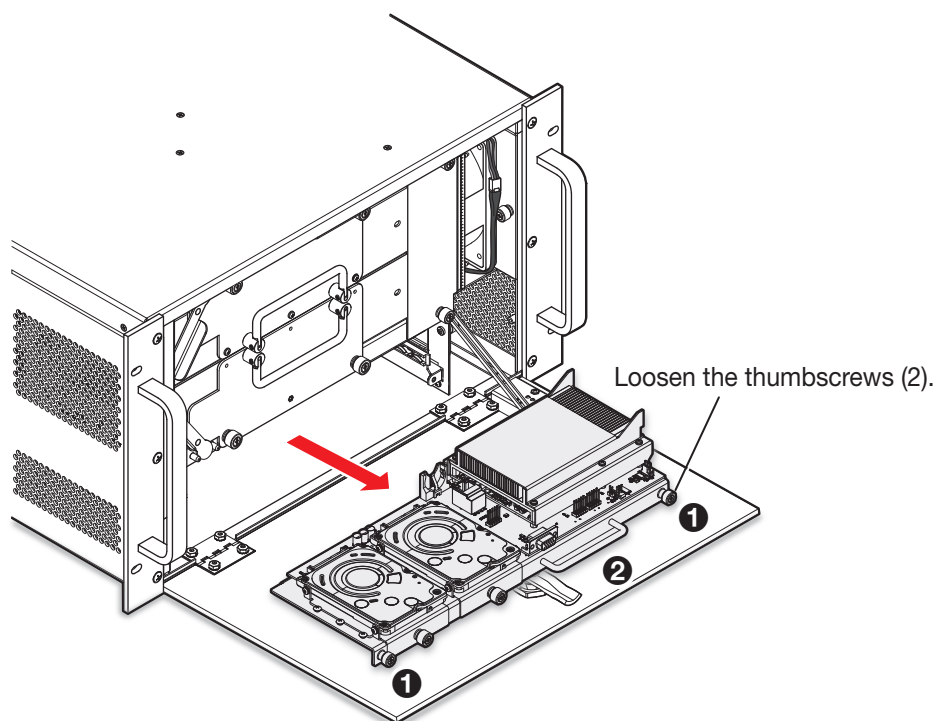

Figure 114. Removing the SBC Assembly
3. Use a screwdriver to loosen the thumbscrews at the right and left edges of the assembly (see figure 114, ①). The thumbscrews cannot be removed completely.